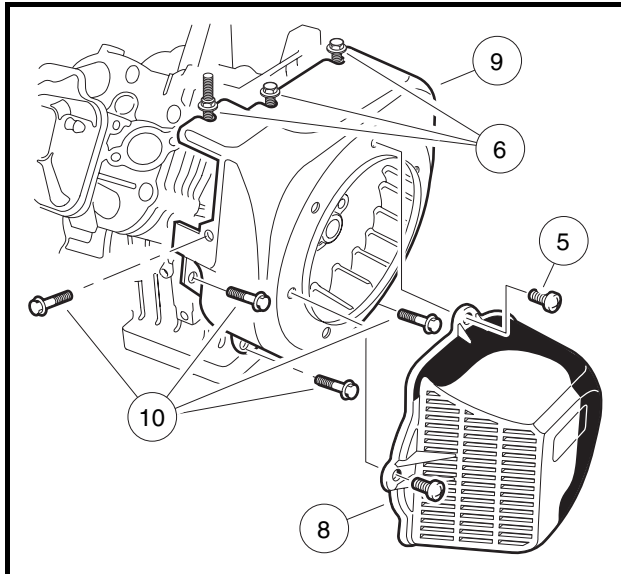
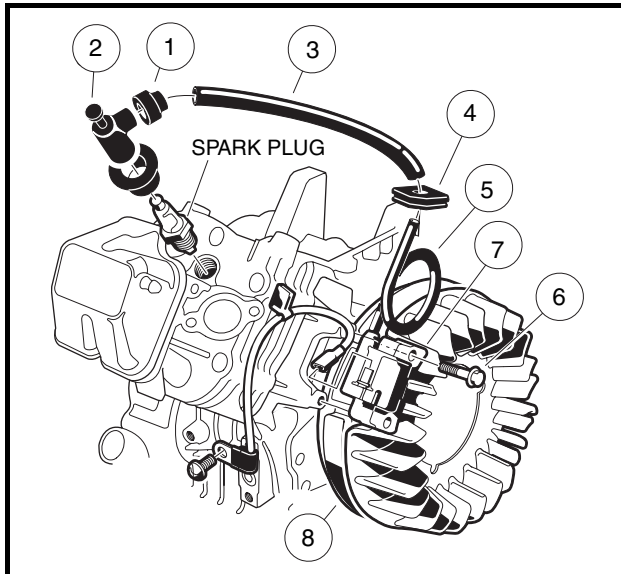

Figure 12-27 Fan Housing and Shroud Installation
Figure 12-29 Coil Installation
7. Remove the pan-head bolts (5) securing the fan shroud (8) to the fan housing (9) (Figure 12-27, Page 12-26).
8. Loosen, but do not remove, the three bolts (6) attaching the fan housing as shown (Figure 12-27, Page 12-26).
9. Remove the remaining four bolts (10) attaching the fan housing as shown (Figure 12-27, Page 12-26), then while opening the housing, detach the spark plug wire grommet (4) from the housing (Figure 12-29, Page 12-27).
1. Remove the rubber gasket (1) on the plug cap (2) by rolling back the gasket onto the spark plug wire (**Figure 12-29, Page 12-27**).
2. Remove the cap (2) from the wire by turning the cap counterclockwise three or four revolutions while gently pulling it off the wire.
3. Remove the gasket (1) and protector tube (3) from the old coil. **See following NOTE.**
14. Install the four remaining flange bolts that secure the fan housing to the engine crankcase. Tighten all seven mounting bolts to 90 in-lb (10.2 N·m) (**Figure 12-27, Page 12-26**).
16. Install the fan shroud with four pan-head bolts (5). Tighten to 50 in-lb (5.7 N·m) (**Figure 12-27, Page 12-26**).